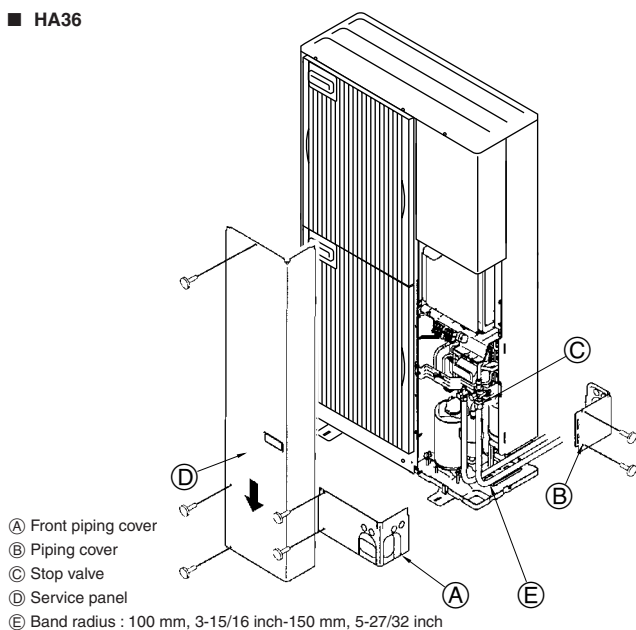

Fig. 4-3
② Flare the liquid pipes and gas pipes and apply a thin layer of refrigeration oil (Applied on site).
4.3. Refrigerant piping (Fig. 4-3)